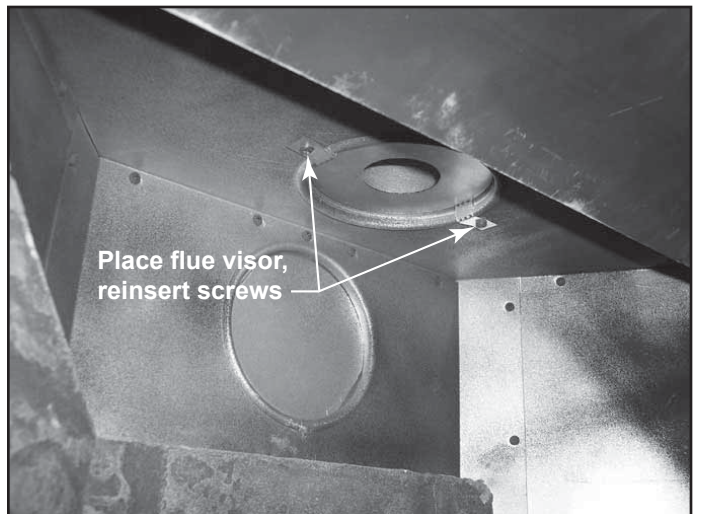

Figure 4.11e 31-60 ft Vertical Run
- The flue baffle will be turned to install inside the flue for vertical vent runs of 31-60 ft. See Figure 4.11e.